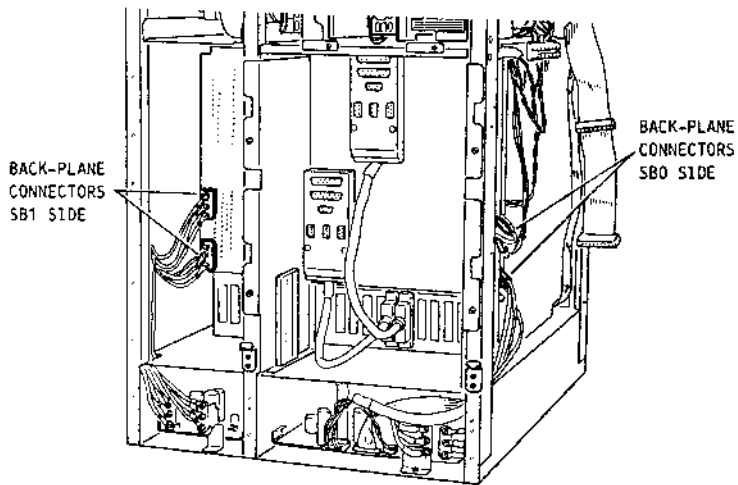
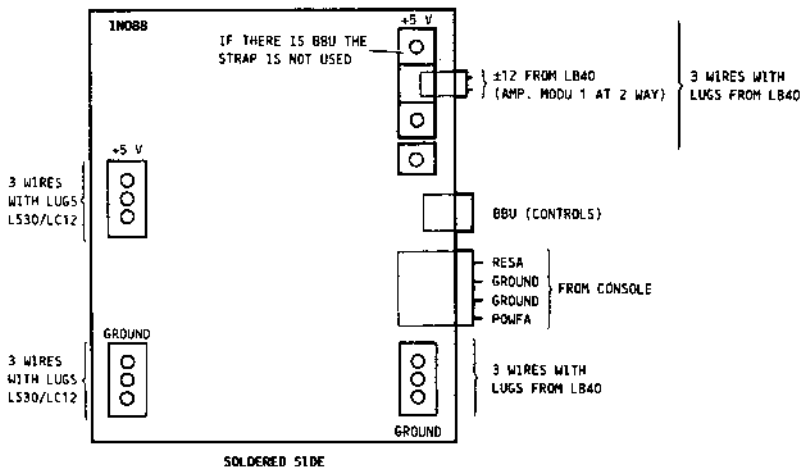

Fig. 2-24 Position of the Back Plane Connectors in the System
Fig. 2-25 Rear View of Back Plane and Connectors
- Disconnect the three red +5V power cables and the three black ground cables (see figure 2-25) from the SB0 left side (see figure 2-24)
- Disconnect the three red +5V power cables and the three black ground cables (see figure 2-25) from the SB1 right side (see figure 2-24)
- Remove the +/- 12V line connector beside the power cables on the SB0 left side (see figure 2-24)
- Disconnect the RESET and POWFA signals connector beside the cables on the left side of the SB0 (see figure 2-24)